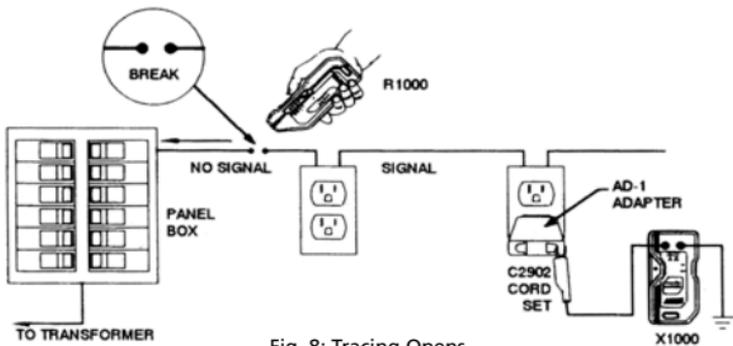

Fig. 8: Tracing Opens
1. Using the C2902 Cord Set, connect the X1000 Transmitter to the open conductor and a separate ground as shown in Fig. 8. Use the AD-1 if applicable.